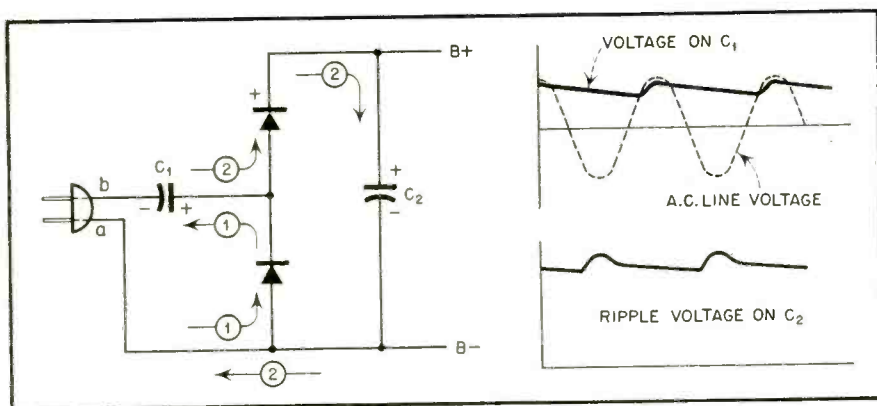

Fig. 3. Half-Wave voltage doubling circuit
*Figure 3* shows a half-wave doubler circuit as used in most of the
The circuit in *Fig. 3* because of its